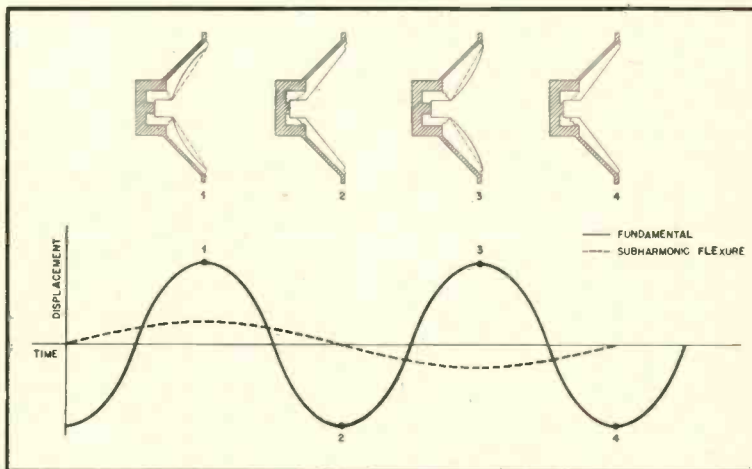

Fig. 10-8. Formation of loudspeaker subharmonics.
*Figure 10-8* illustrates how flexing of the cone in response to voice-coil motion may produce subharmonics. When the voice coil moves forward,